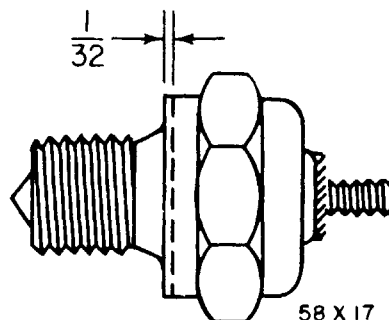

Fig. 15—Neutral Starting Switch
(1) Remove the neutral starting switch and machine $\frac{1}{32}$ " from the seating surface of the switch as illustrated in Fig. 15.
(2) Clean the switch, replace the concave (cupped) washer and "O" ring seal.